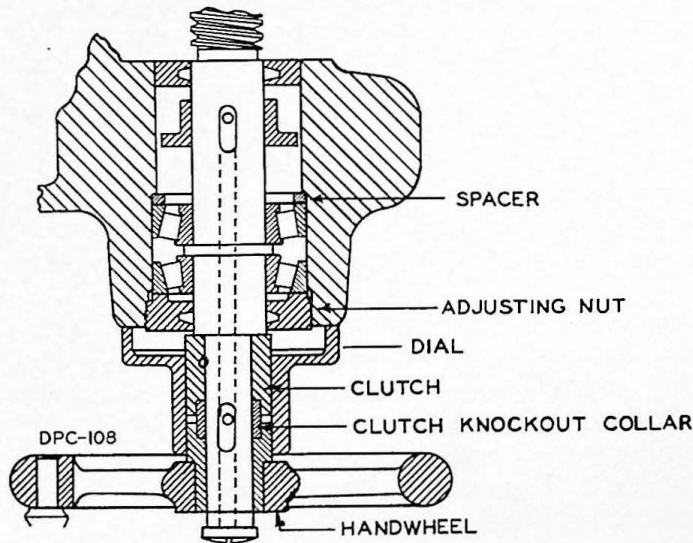

FIGURE 13
1. Remove hand wheel and dial. Figure 13.
When re-assembling cross screw, have saddle in a position toward front of knee. Slip coupling on splined section of cross screw, and then match keyways of the coupling with keys of power drive shaft in knee. Turn cross screw until coupling can be slipped over both sets of keys. Make sure spacer (Figure 13, page 11) is in place.